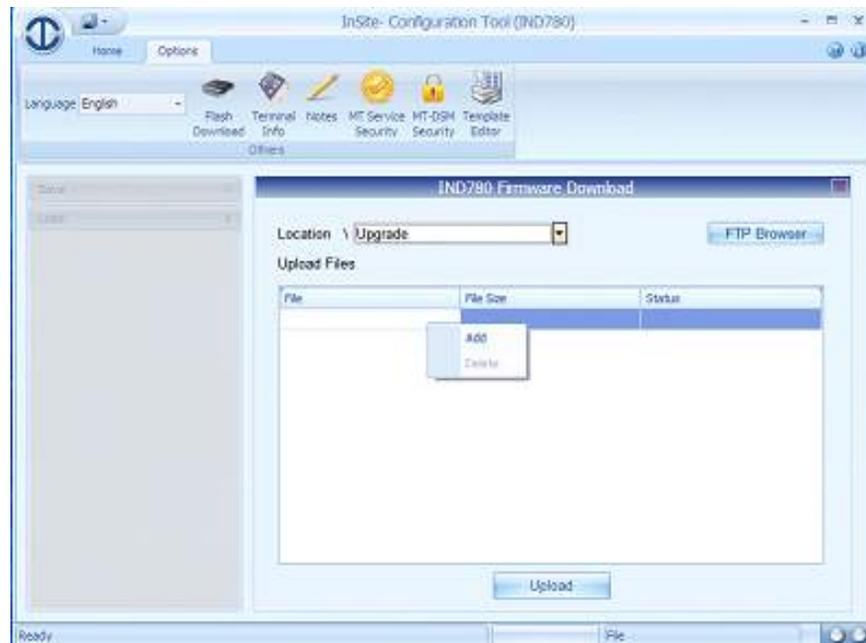

Figure 4-1: InSite Firmware Upgrade File Selection Screen
3. Access **Options | Flash Download**, or click on the Flash Download icon . From the Firmware Download window (Figure 4-1), select the files to copy to the IND780's Upgrade folder. Refer to the InSite documentation or help system for details on performing this step.